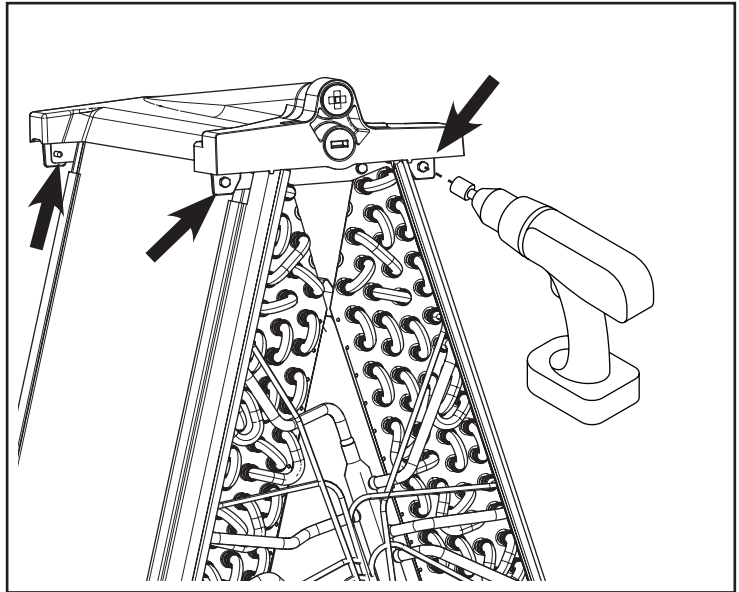

Figure 9 – Remove upflow drain pan
11. Remove the upflow drain pan by removing the four screws attaching it to the coil (See Figure 9). Keep drain pan and four screws.